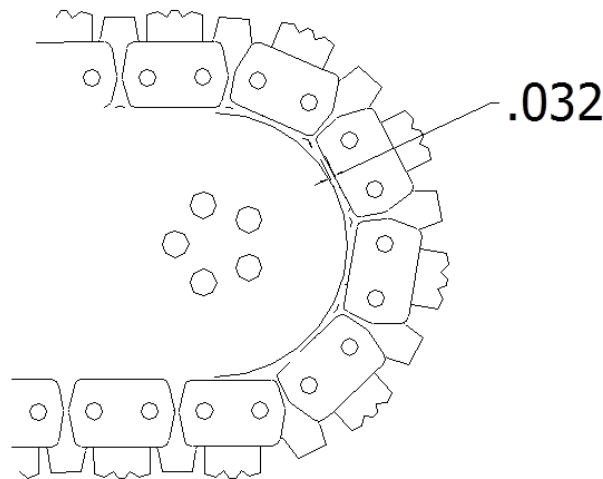

Figure 4-2
4. Check the clearance between the nose of the bar side-plates and the chain chassis; when new, there is 1/32" clearance. The bar must be replaced before the chain chassis begins to ride directly on the nose of the bar side-plates. Refer to Figure 4-2.